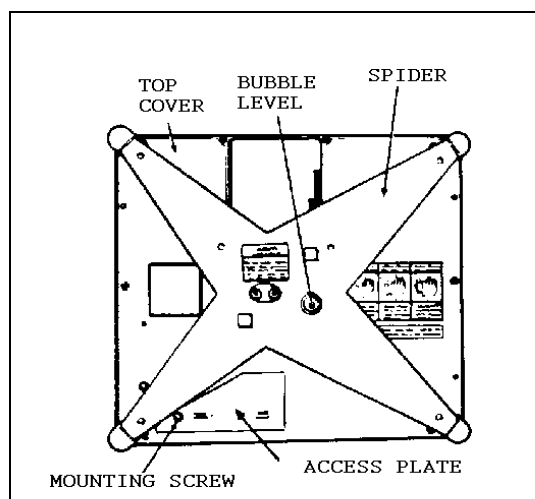

Figure 2 - Setup Access
3.1.6 Remove the calibration access plate located in the front-left portion of the top cover by removing the screw. (See Figure 2).